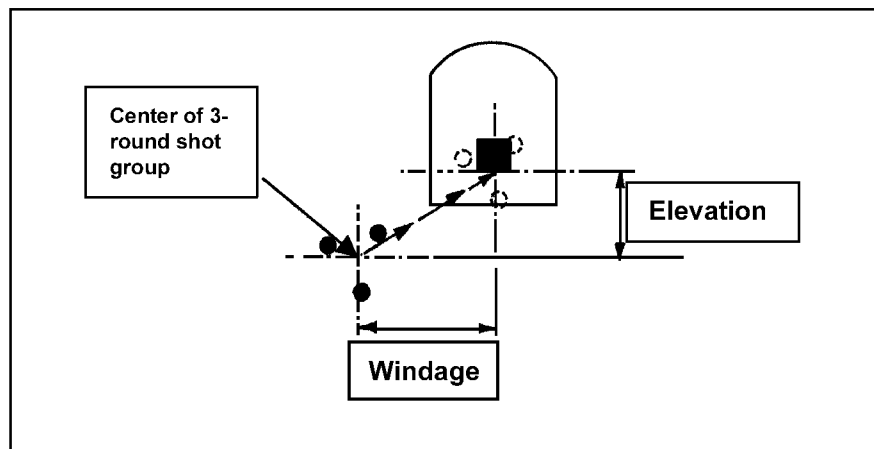

Figure G-48. Three-round shot group with adjustments.
(2) Fire three-single rounds loaded individually without making any sight adjustments.
(3) The three-round shot group should be within a 4-cm circle to establish the center of the shot group in relation to the center base of the aiming paster.
(4) Measure the amount of movement that is required left or right (windage) and either up or down (elevation) to move the three-round shot group onto the center of the aiming paster.
(5) Upon completion, return to the firing line to make corrections to the weapon and refire a three-round shot group to confirm zero (Figure G-48).